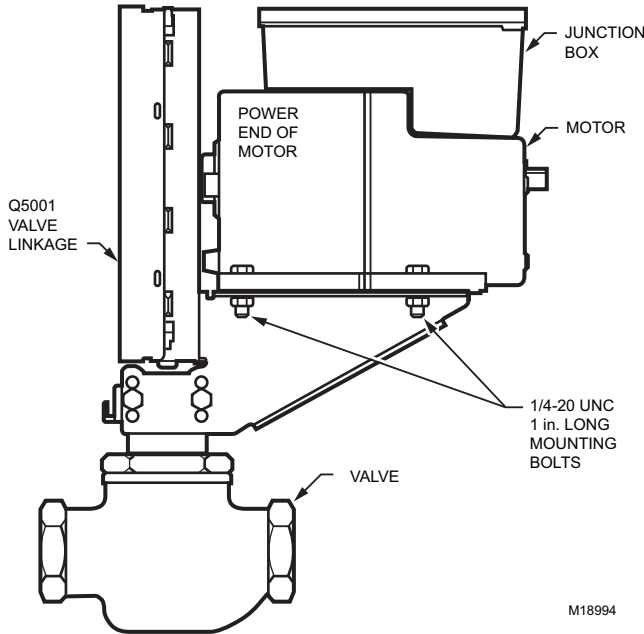

Fig. 4. Mounting the motor on a Q5001 Valve Linkage.
- Attach the motor to the bracket with the four bolts provided. See Fig. 4.
The Q100 Linkage requires a 220738A Adapter Bracket for all valve applications. Applications with the Q5001 Valve Linkage do not require the 220738A Adapter Bracket (see Fig. 4).